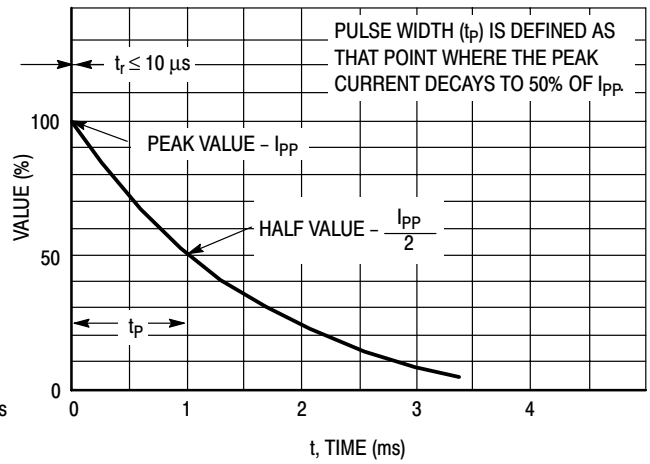
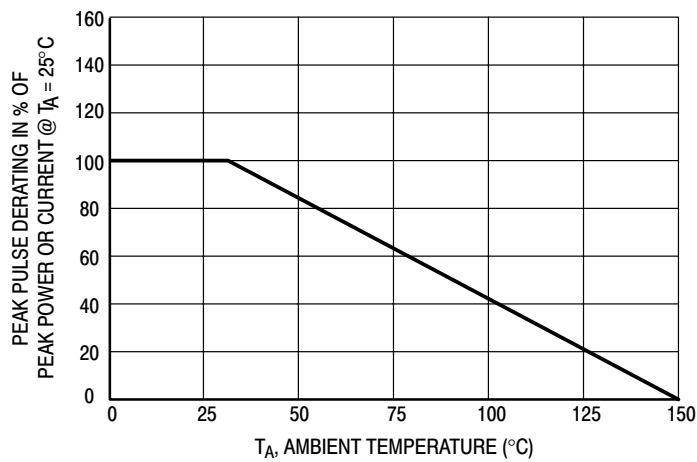

Figure 2. Pulse Waveform
Figure 3. Pulse Derating Curve
8. Surge current waveform per Figure 2 and derate per Figure 3 of the General Data – 600 W at the beginning of this group.